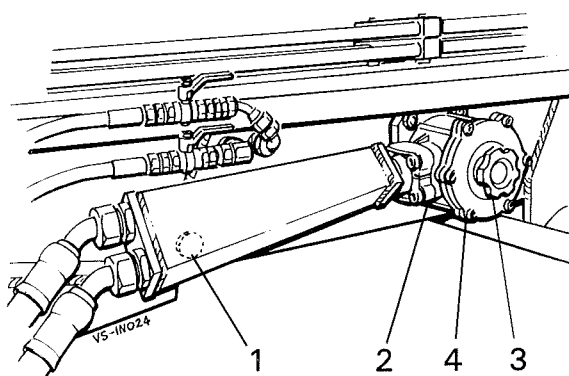

Figure 36
The oil reservoir magnetic plug (item 1, figure 36) should be removed and cleaned annually. This plug is also used to drain the reservoir, so if the oil is not being changed a temporary 3/4" BSP plug should be used to seal the tank and minimise oil loss. An additional drain plug (item 3, figure 34) is used to drain the remaining oil left in the top section of the tank.
The suction filter elements (*item 2, figure 36*) should be replaced after the first 50 hours running time and then every 500 hours or annually thereafter. Subsequently the filter elements should be cleaned or replaced if the indicator shows that the element is becoming blocked.
1. Wind the suction filter knob (*item 3, figure 36*) fully out anti-clockwise to close the cut off valve within the filter housing.
2. Release the screws (*item 4, figure 36*) holding the filter lid. A small amount of oil will be lost from the filter body.
5. Wind the suction filter knob (*item 3, figure 36*) fully in clockwise to open the cut off valve.